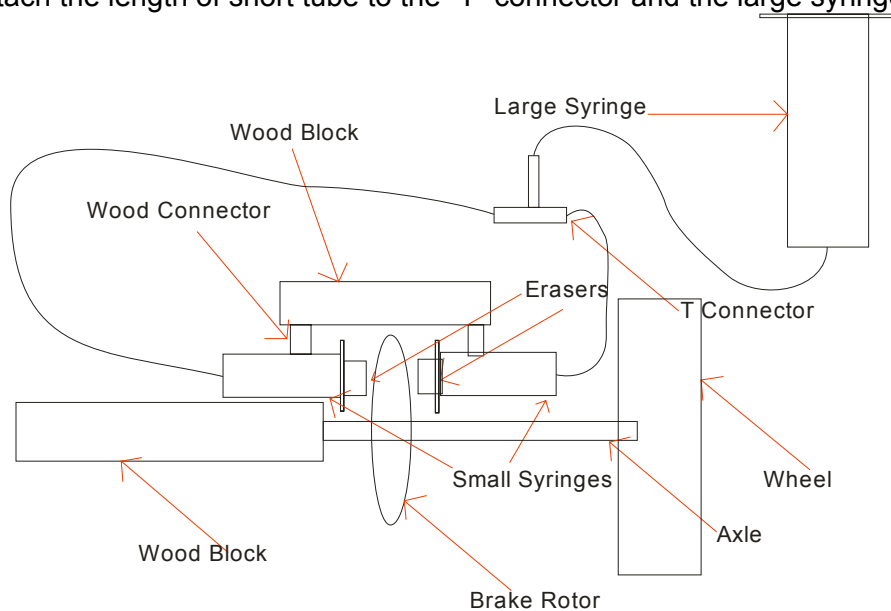

Figure 1
****Refer to Figure 1 below****